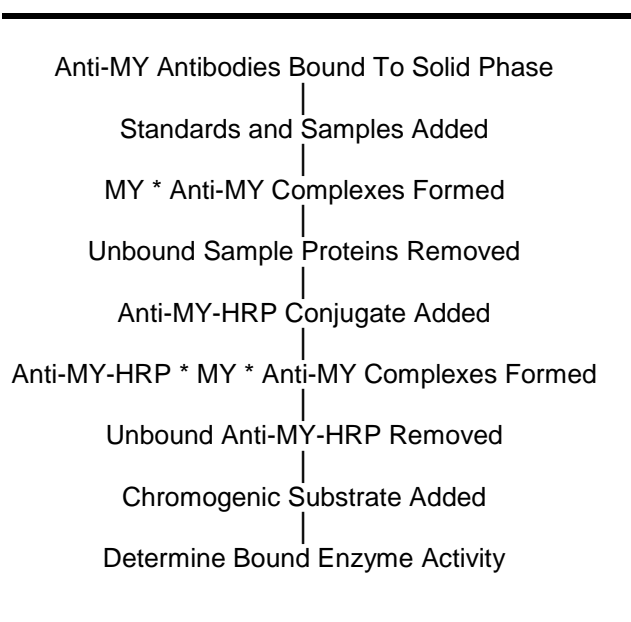

Figure 1
The principle of the double antibody sandwich ELISA is represented in Figure 1. In this assay the myoglobin (MY) present in samples reacts with the anti-MY antibodies, which have been adsorbed to the surface of polystyrene microtitre wells. After the removal of unbound proteins by washing, anti-MY antibodies conjugated with horseradish peroxidase (HRP) are added. These enzyme-labeled antibodies form complexes with the previously bound MY. Following another washing step, the enzyme bound to the immunosorbent is assayed by the addition of a chromogenic substrate, 3,3',5,5'-tetramethylbenzidine (TMB). The quantity of bound enzyme varies directly with the concentration of MY in the sample tested; thus, the absorbance, at 450 nm, is a measure of the concentration of MY in the test sample. The quantity of MY in the test sample can be interpolated from the standard curve constructed from the standards, and corrected for sample dilution.